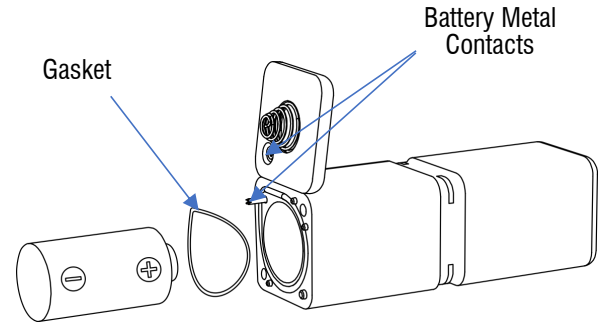

Figure 5B
- Make sure the Gasket is installed between the cover & body for waterproof (Figure 5B)